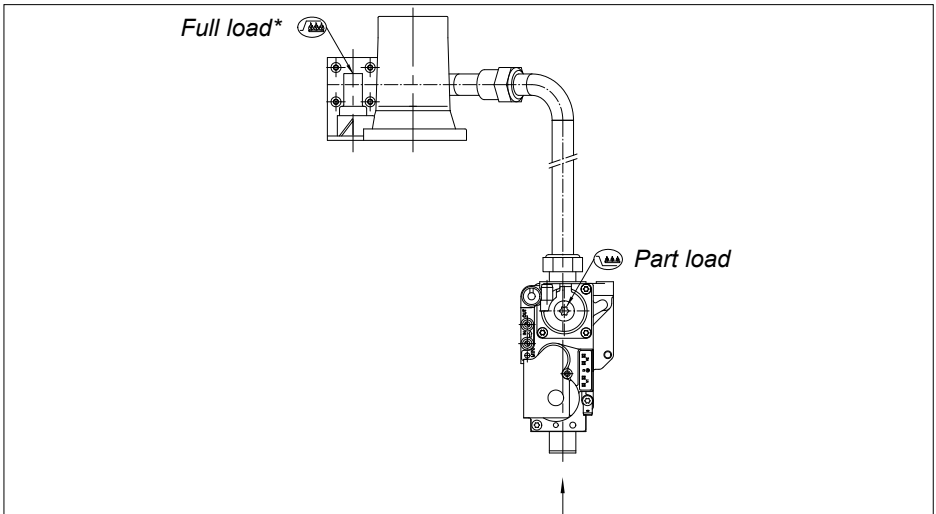

Fig. 21 Setting screws
- 16.3. When full-load speed is reached, check values against the table and adjust if necessary using the screw on the venturi (see Fig. 21).
- 16.6. When part-load speed is reached, check values against the table and adjust if necessary using the screw on the combi valve (see Fig. 21).